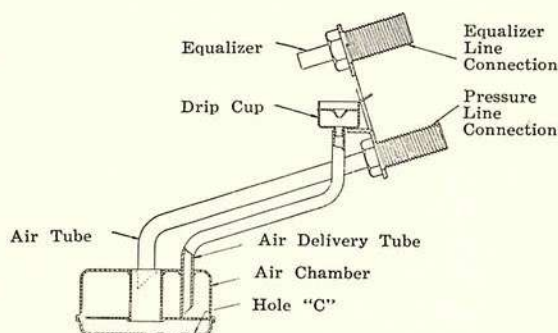

Fig. 3—Pan Unit
Fig. 3 shows the Air Tube and Air Chamber which must always be filled with air. The oil tries to enter through hole (C) and thus presses on the trapped air. The oil in pan below hole (C) does not register, but above this point the gauge registers quart for quart the amount of oil in pan. The Drip Cup and Air